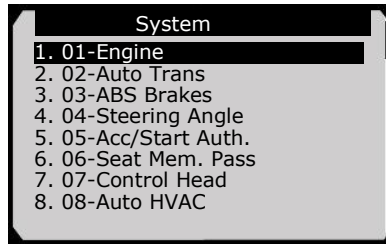

Figure 6.5
- With the scan tool in **System** screen, use **UP/DOWN** scroll button to select the detecting system (Figure 6.5), and press **OK** button. Wait for the **Function** screen to appear.